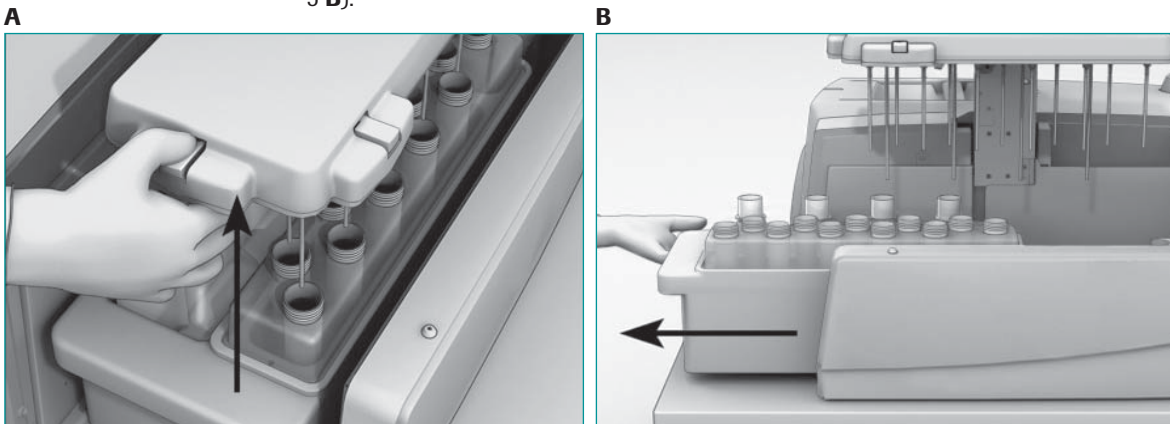

Figure 5: Removing the Reagents cassette
- 1 Open the exterior fluidics door and raise the sipper manifold, using button **A** (on the short, front side; see Figure 5 **A**) of the sipper manifold.
- 2 If present, slide out the Reagents cassette, toward the front of the instrument (Figure 5 **B**).